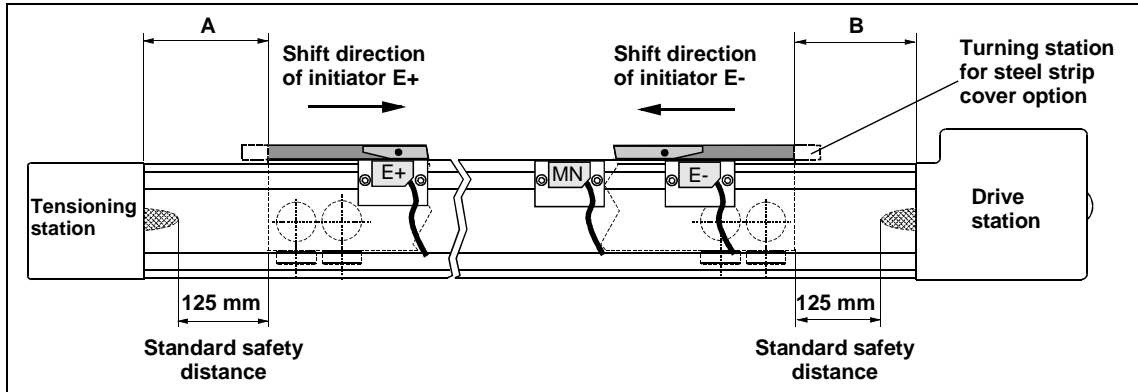

Figure 4: External initiators: setting up end limits and safety distances
2. Arrange the limit switches according to the sequence given in Figure 4.
3. **E-**: Bring the carriage with the load attachment plate into the position as in Figure 4 and Table 1 (dimension B). Move limit switch **E-** from the drive station in the direction of the tensioning station until it operates
4. **E+**: Bring the carriage with the load attachment plate into the position as in Figure 4 and Table 1 (dimension A). Move limit switch **E+** from the tension station in the direction of the drive station until it operates.